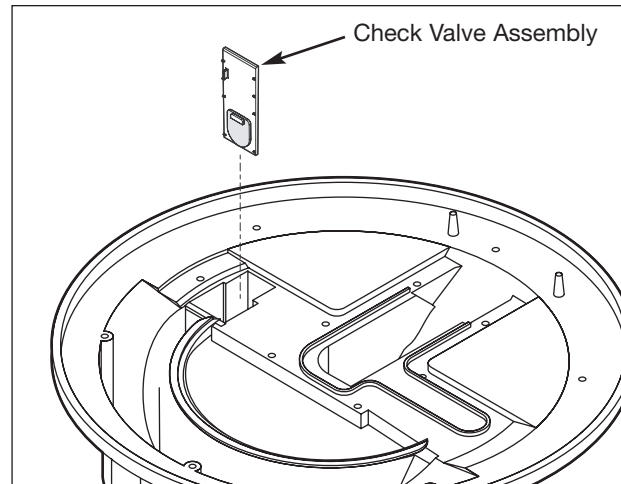

Figure 5-21. Vertical Filter Removal
7. Pull the check valve assembly out from slot in sump. (See Figure 5-21)